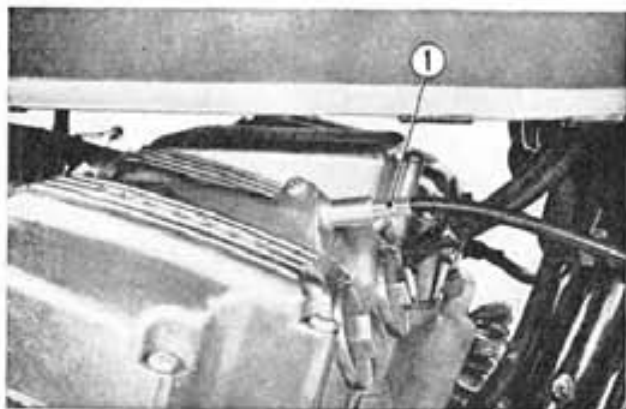

Fig. 2-2 ① Tachometer cable
4. Disconnect the tachometer cable at the cylinder head cover and remove the high tension cord caps from the spark plugs. (Fig. 2-2)